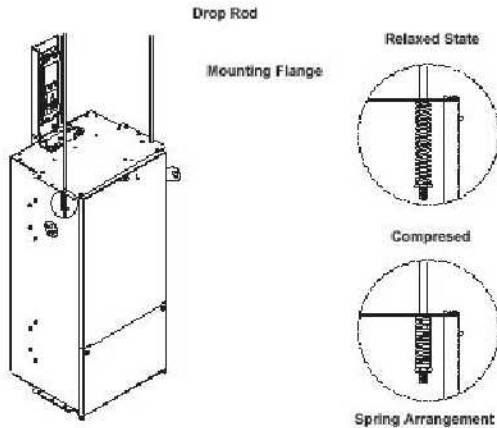

Figure 30. Typical Vertical Support Arrangement
11.1.6 For riser applications, flexible conduit should be used for load connections. 400A and larger bus plugs require qty one (1) of Siemens spring kit SXSJ. The spring should be compressed approx. 1.5" from the relaxed state, see Figure 30. (If ordering an alternate spring, use the following: Spring Rate= 35 lb/in, Free Length=4-5 in., ID=.56 min.).